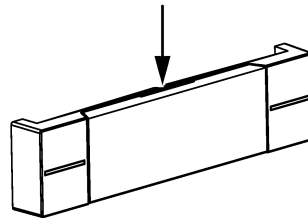

Figure 10: Feel for a notch in the labelling field cover
- Search for a notch in the cover of the labelling field by feeling with a finger (see figure 10).